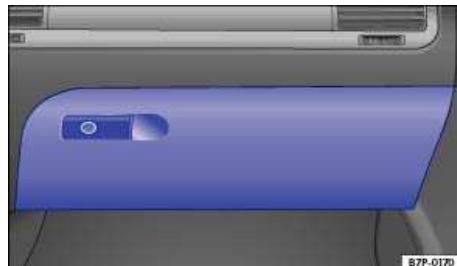

Fig. 123 On the passenger side: Glove compartment.
- To *open*, pull the handle ⇒ fig. 123.